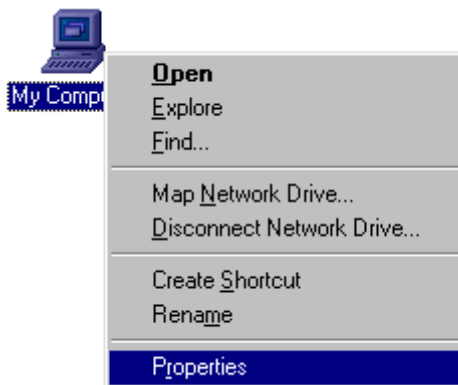

Figure 36 My Computer Icon and Menu
1. From the desktop, right-click the **My Computer** icon and select **Properties** from the menu, as shown in Figure 36.